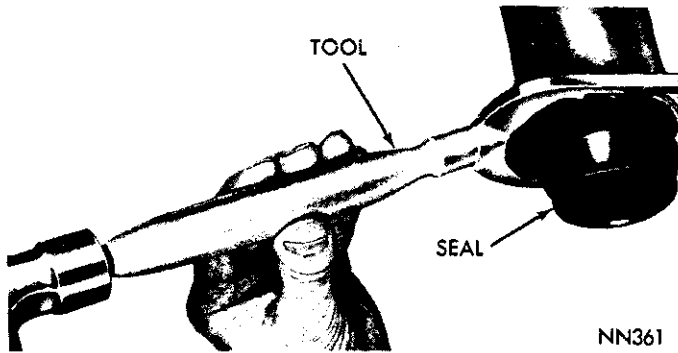

Fig. 11—Removing Extension Housing Yoke Seal
(1) Remove extension housing yoke seal (Fig. 11) with Tool C-3994.
- (1) Place drain pan under seal.
- (2) Disconnect propeller shaft at rear universal joint. Carefully pull shaft yoke out of transmission extension housing.
- (3) Remove extension housing yoke seal (Fig. 11) with Tool C-3994.